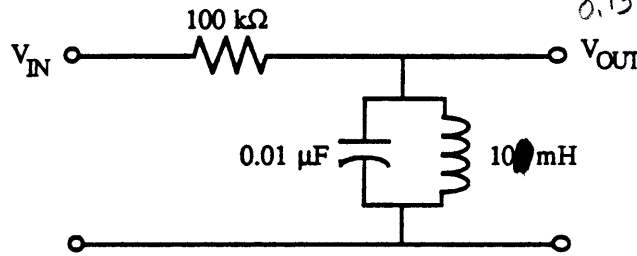

Figure 4.7 - Resonant network
Construct the circuit shown in Figure 4.7. Adjust your signal generator for a 15 kHz sine wave output and connect it to the input of your circuit. Measure the peak-peak input and output voltage with an oscilloscope for the frequencies shown below.
where $\omega_i = 2\pi/T$. The signal must repeat every T seconds where T is known as the period of the signal. This is a very important relationship as it allows us to solve problems in the frequency domain. This is especially useful for filters and resonance problems. We will not attempt to prove this relationship or really do anything with it. However, we can establish that it really works by doing a crude experiment. The resonant circuit of Figure 4.7 has a very narrow resonance which means that only a small band of frequencies can pass through it. For example, if the network was resonant at 15 kHz then it would pass only a small band of frequencies near 15 kHz. If we could vary the filter's resonant frequency then we could look at the frequency components of a signal. Unfortunately, we do not have the components to vary the resonant frequency of our network nor to build enough filters with different resonant frequencies to check the spectrum of any real signal. However, we can vary our signal frequency and then scale the results. This sounds more complicated than it really is. Measure the output voltage of your resonant network for a square wave signal at the resonant frequency. Record this voltage and frequency in Table 4.7. Now slowly decrease the generator frequency until you see another output signal from the filter. Find and record at least three more signals. HINT: all signals will be at odd multiples of your resonant frequency, i.e. 1, 3, 5, etc.
- ⑤ Calculate the resonant frequency of Figure 4.7 and compare it with your measured value. Explain any discrepancies.
- ⑥ Plot $\log_{10}(V_{OUT}/V_{IN}@f_{res})$ from Table 4.5 on the vertical axis of versus frequency on the horizontal axis. The resulting graph is a realization of the Fourier series equation, Eqn. 4.3, and is called the frequency spectrum of the generator output signal.